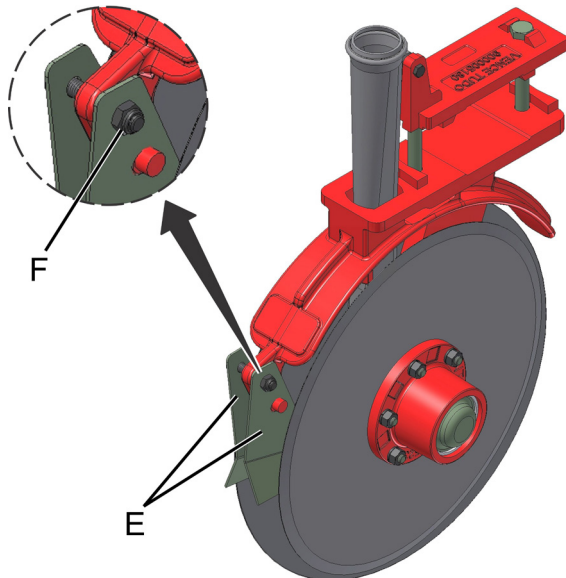

fig. 16
Periodically adjust the cleaners (E) (fig. 16) of the offset double discs. To adjust the cleaners, tighten the bolt and nut (F). Adjust so that you maintain cleaning efficiency. Do not overtighten to avoid excessive wear on the cleaners (E).